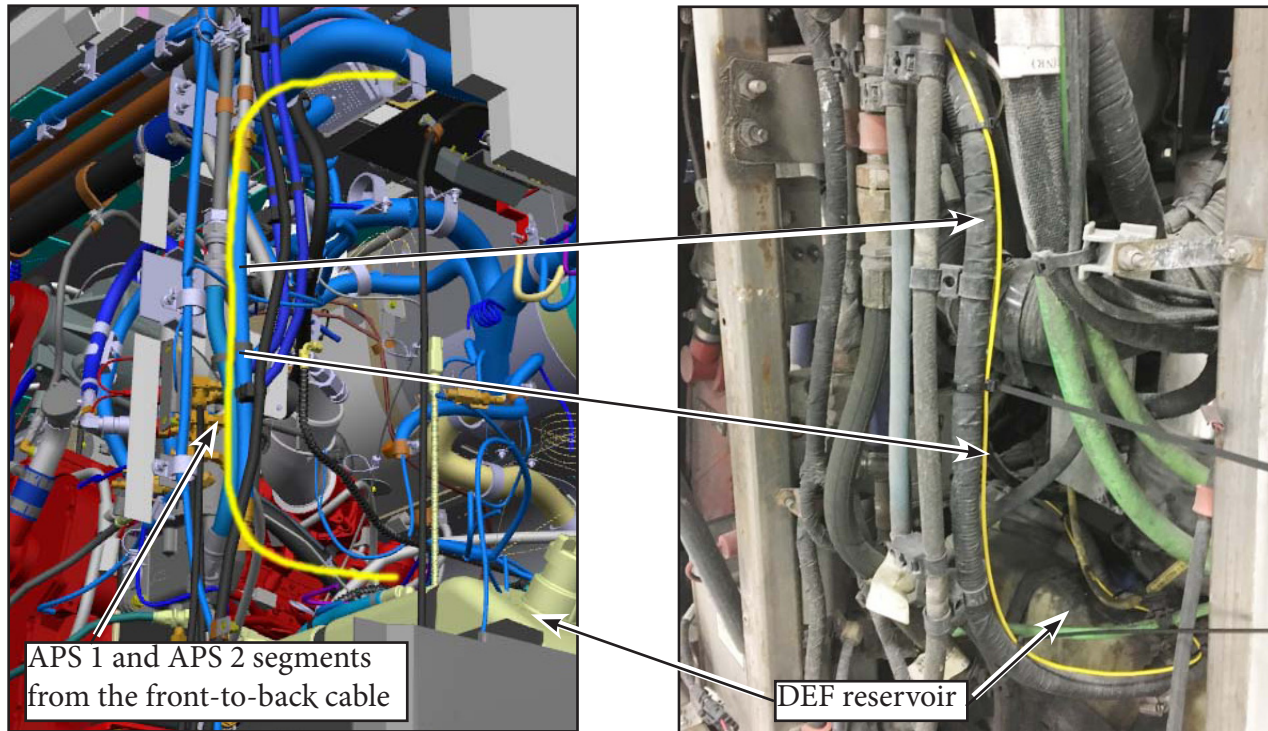

Figure 29 - Front-to-Back Cable Routing in the Hydraulic Oil Tank Area
- 2.16. Raise the bus and continue routing and tie-wrapping the front to back cable over the same routing path previously used for the bypass cable in level 1 (see Figure 29).